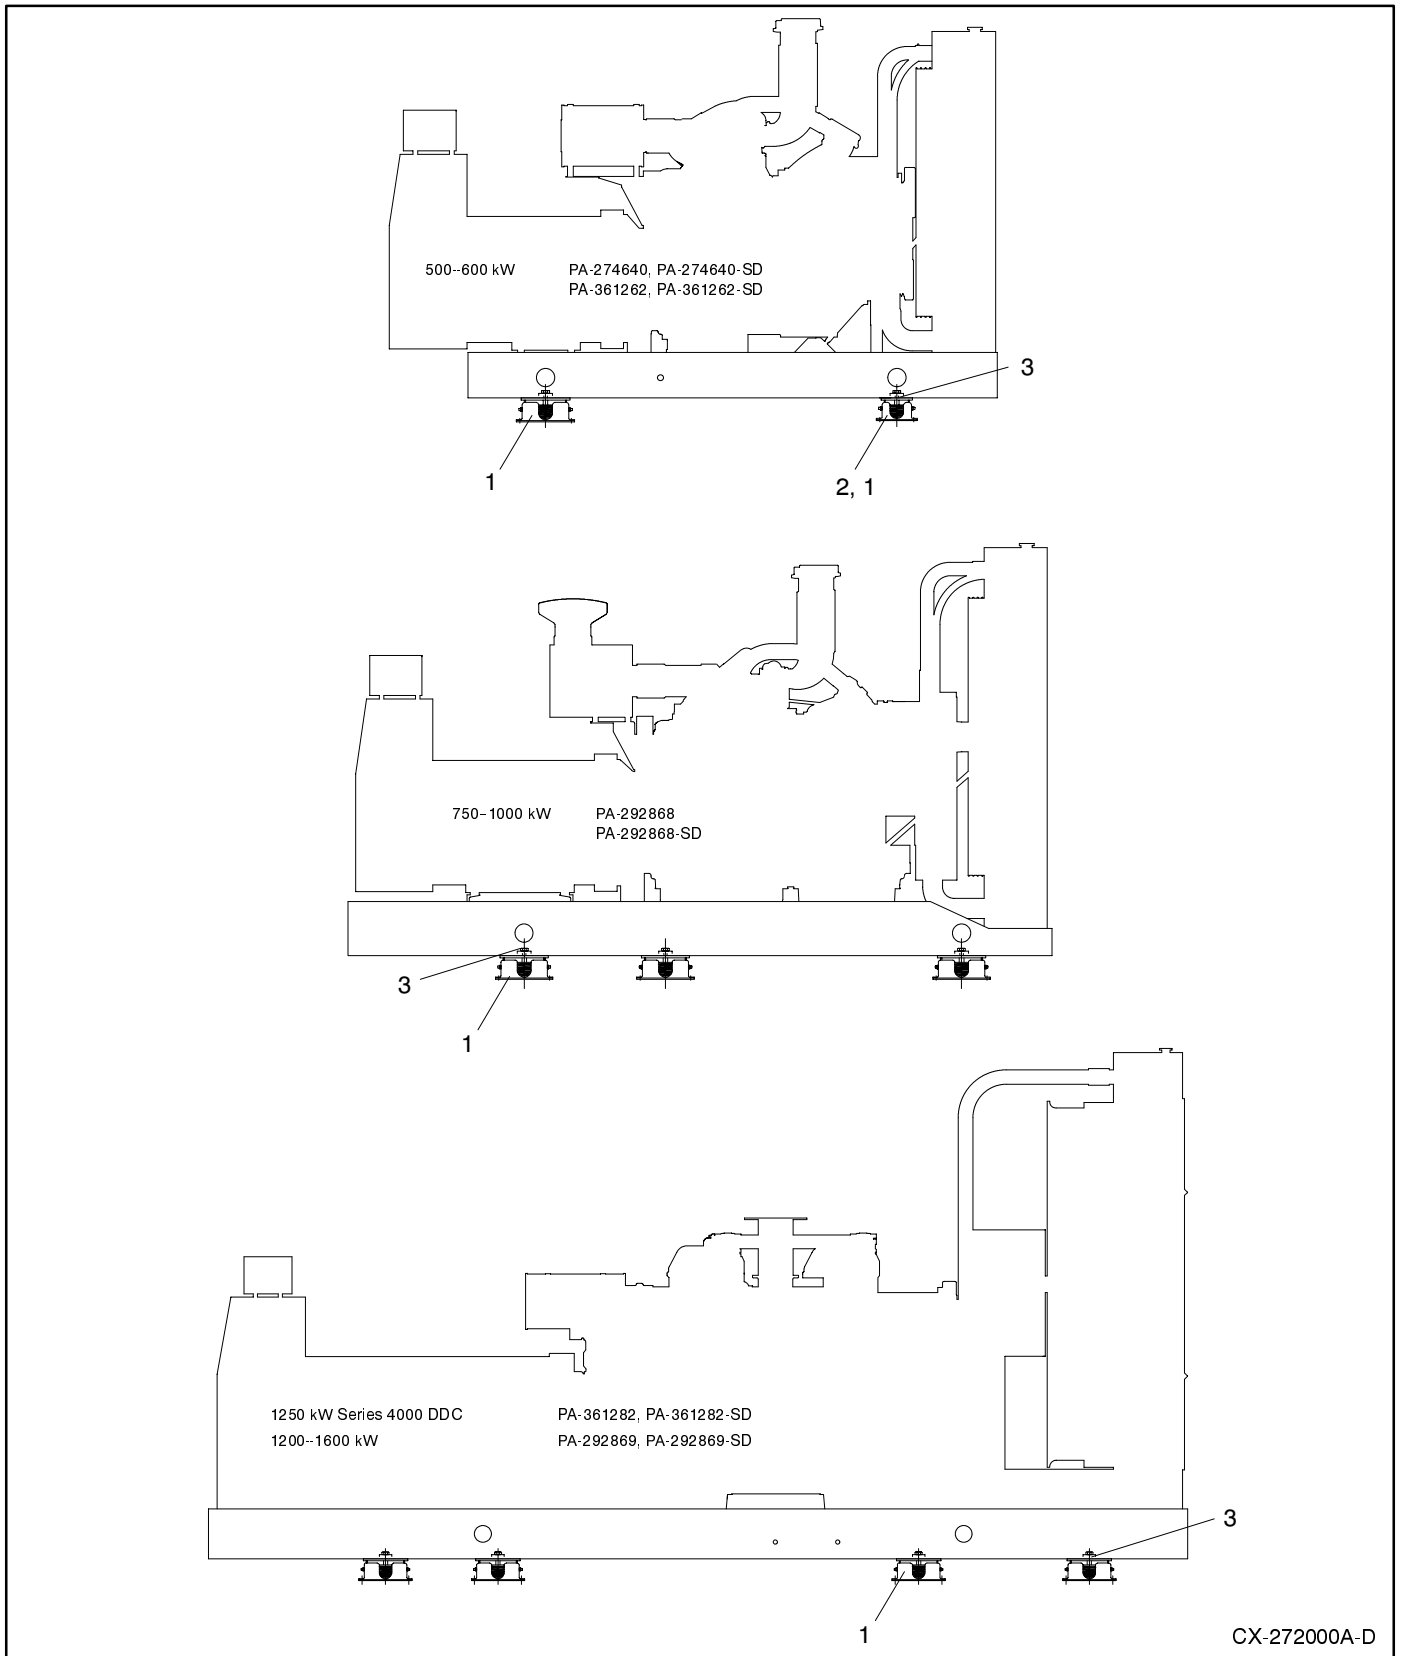
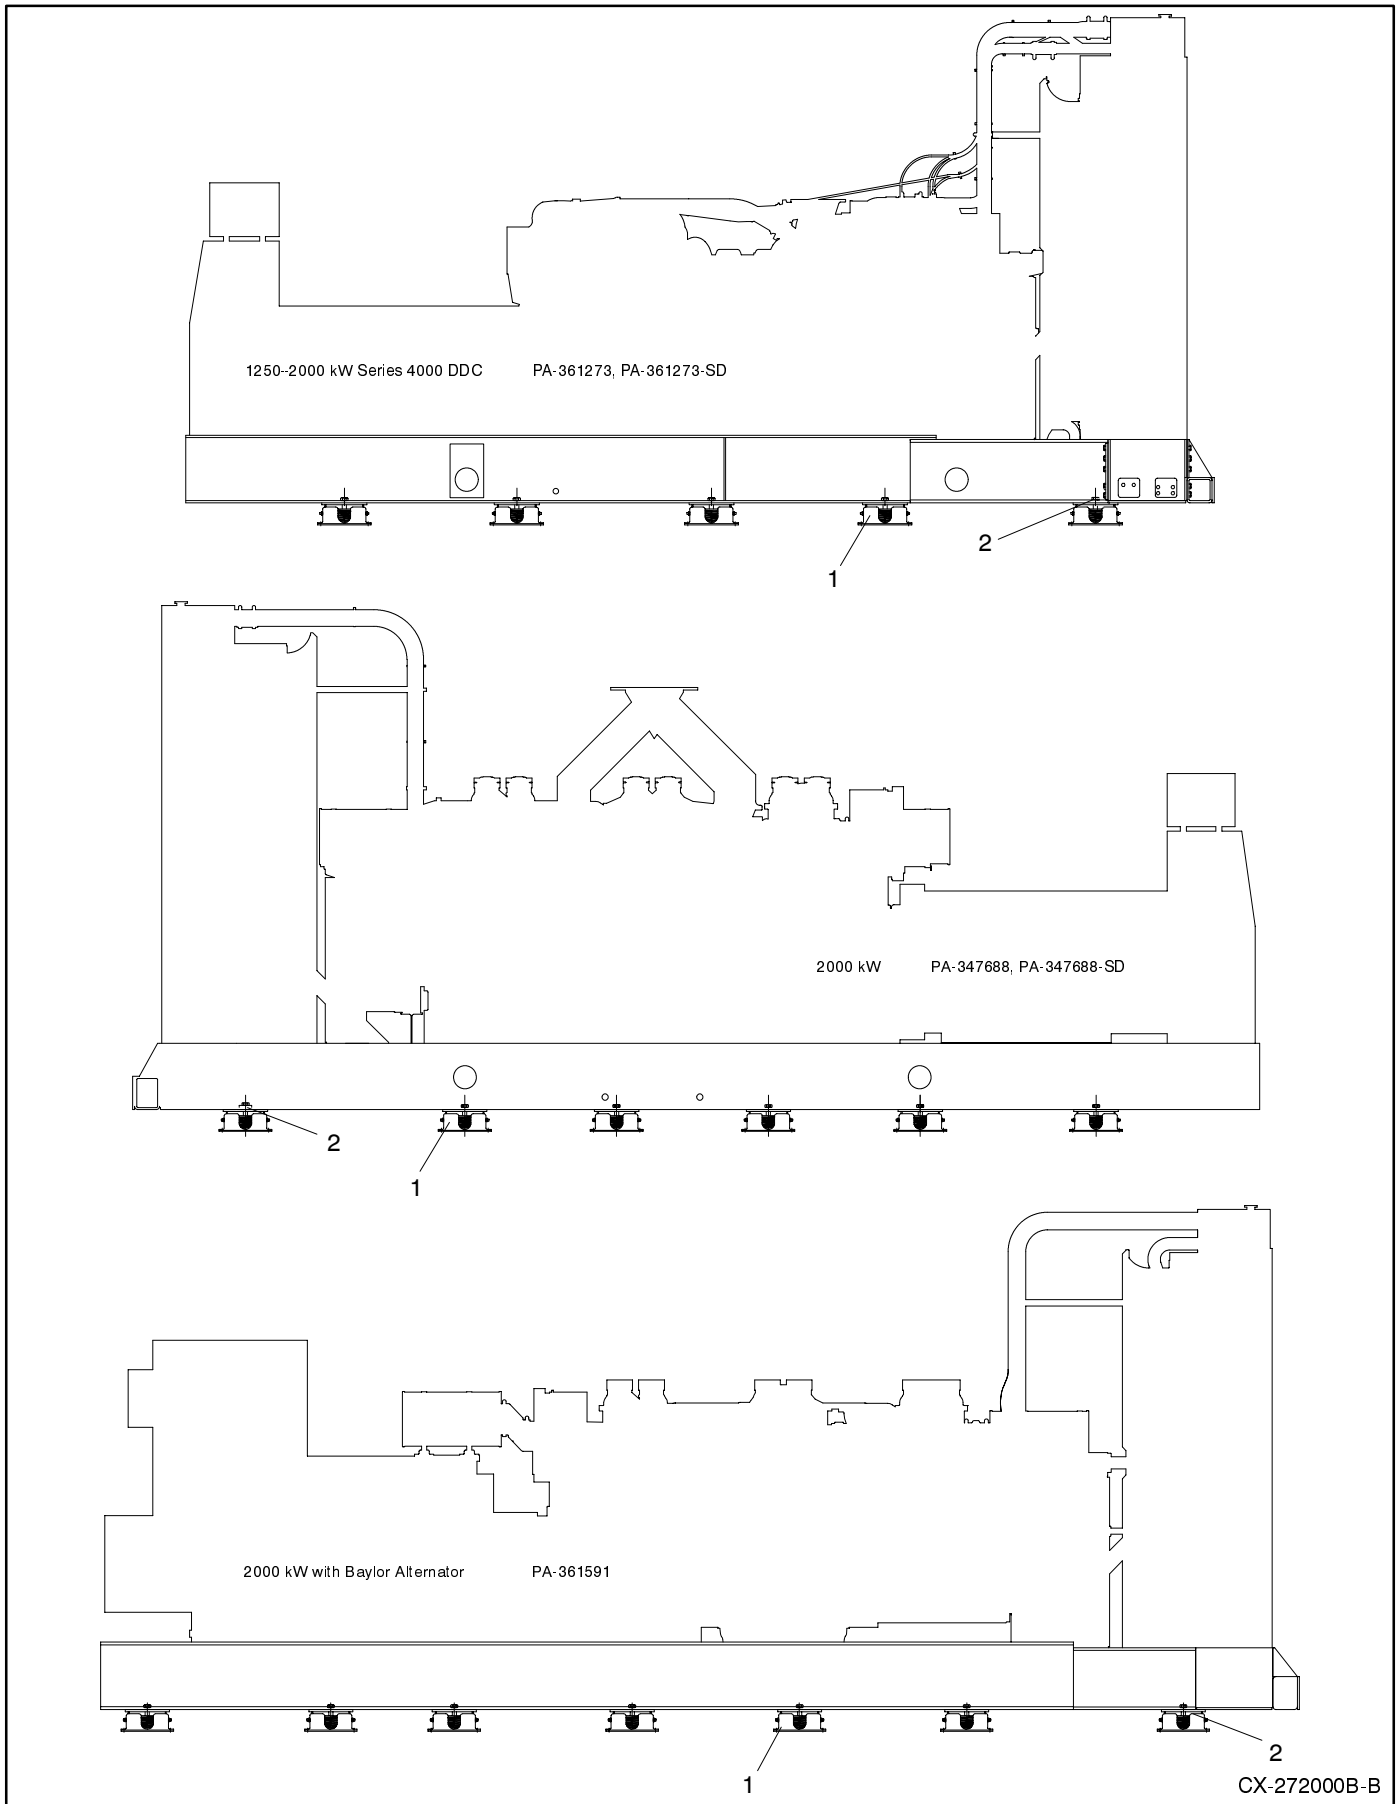

Figure 3. Vibration Spring Isolator Installation
Figure 4. Vibration Spring Isolator Installation
5. Raise the generator set enough to align the mounting holes of the spring isolator mount with the corresponding holes in the generator set skid. See Figure 3 or Figure 4 for the spring isolator mounting locations.